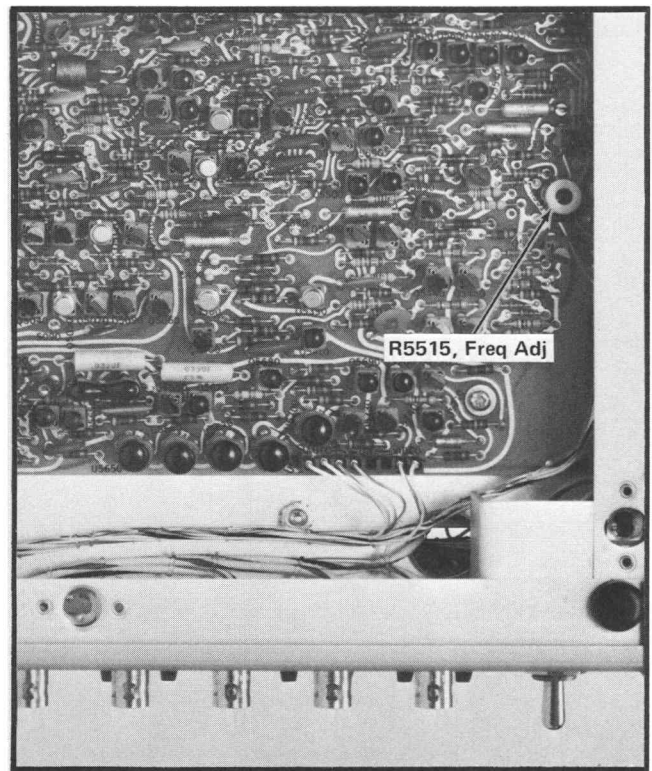

Fig. 6-4. Gen Lock board adjustment location.
c. ADJUST—R5515, Freq Adj, (see Fig. 6-4) for 3.579545 MHz.